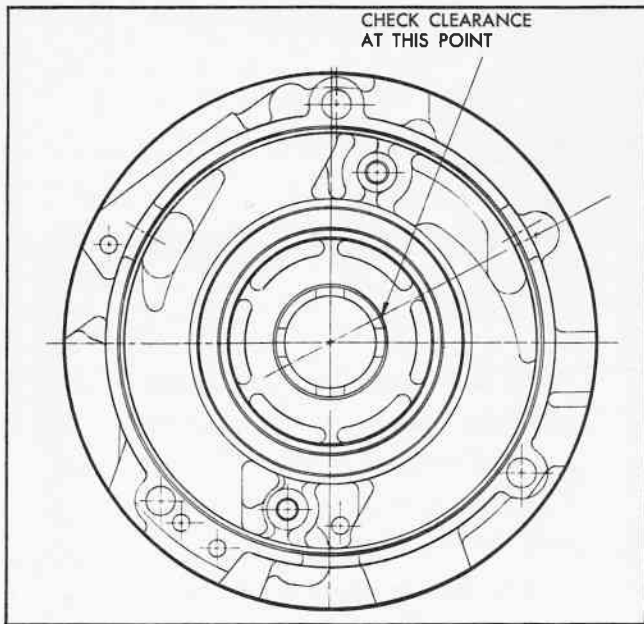

Fig. 16 Point of Clearance Check - Front Pump Bushing and Torus Shaft
The clearance between front unit driven torus shaft and front pump bushing must not exceed .003" using a 1/2" feeler gauge at point shown in Fig. 16. The measurement must be taken at the point shown since this is the point of greatest thrust. If a .004"
- Front Pump Bushing - Condition and clearance between shaft and bushing. See Fig. 16.